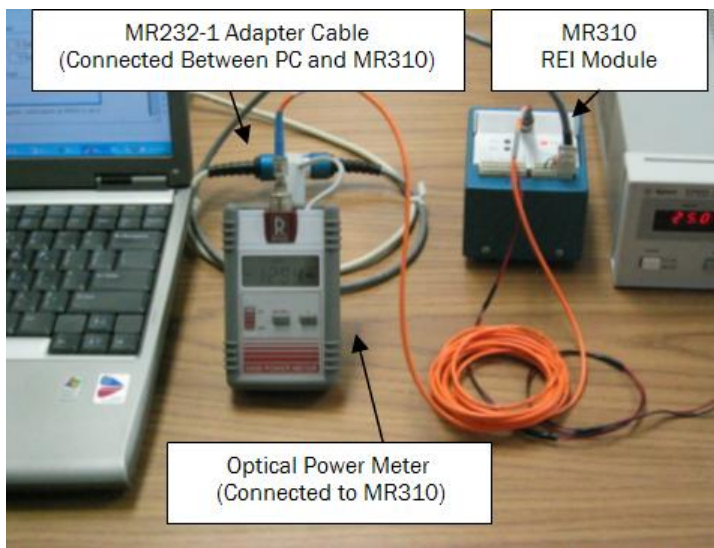

Figure 27. Measuring Optical Power Output Of The MR310 Module.
- STEP 1: Using a known good optical cable, connect the MR310 output to the input of an Optical Power Meter (OPM) as shown in Figure 27.
- STEP 1: Disconnect the good Test Cable and reconnect the actual fiber optical cable between the MR310 and OPM, similar to Figure 27. In this troubleshooting step, we will essentially repeat the tests of the previous section in order to verify if the loss of the actual cable link is acceptable.